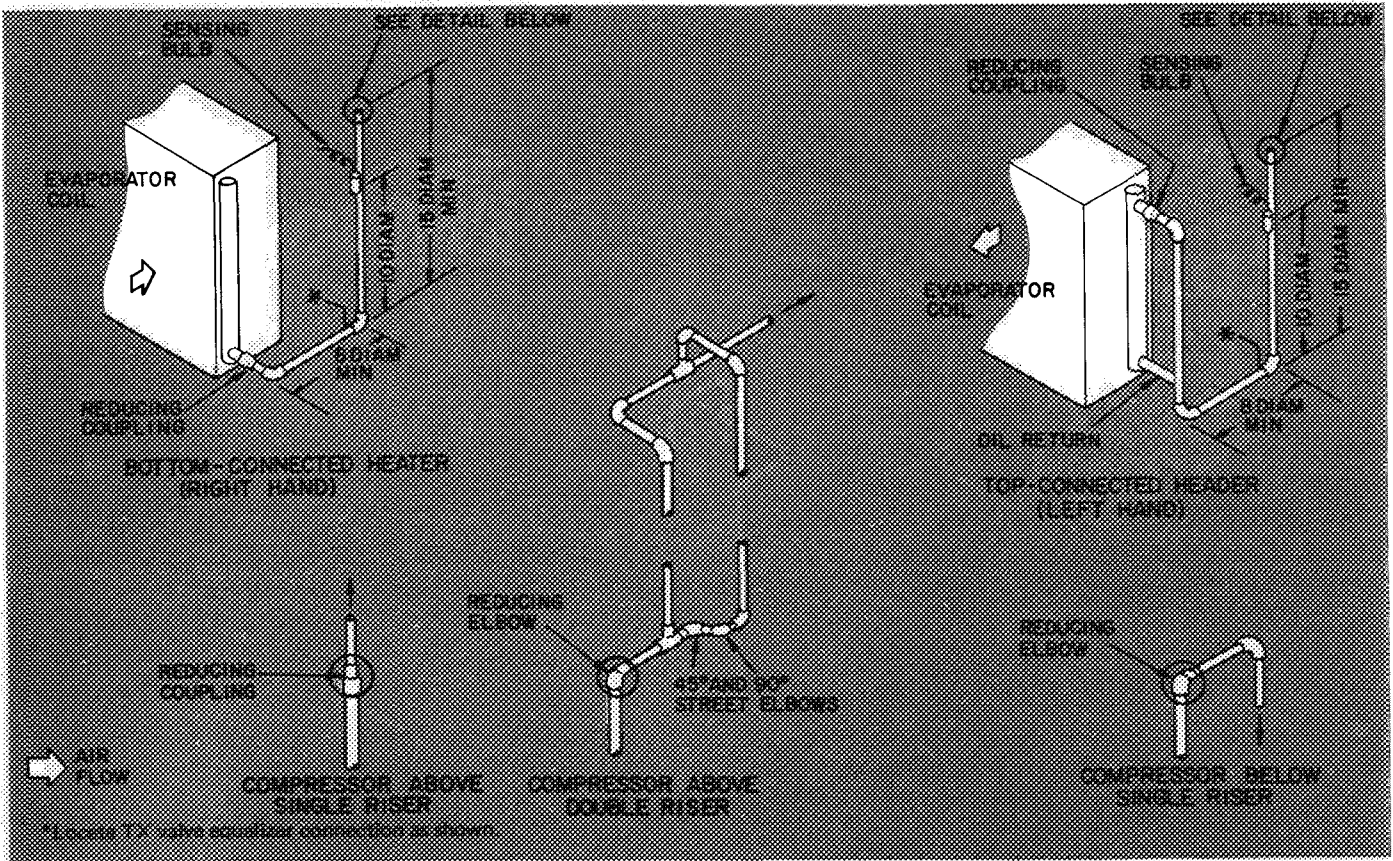

Fig. 14 – Suction Line Piping – Single Unsplit Coil
- Connect suction piping per Fig. 14, 15 and 16.
- Install expansion valve(s). Refer to Fig. 14, 15 and 16 for proper location of sensing bulb and equalizer connection.